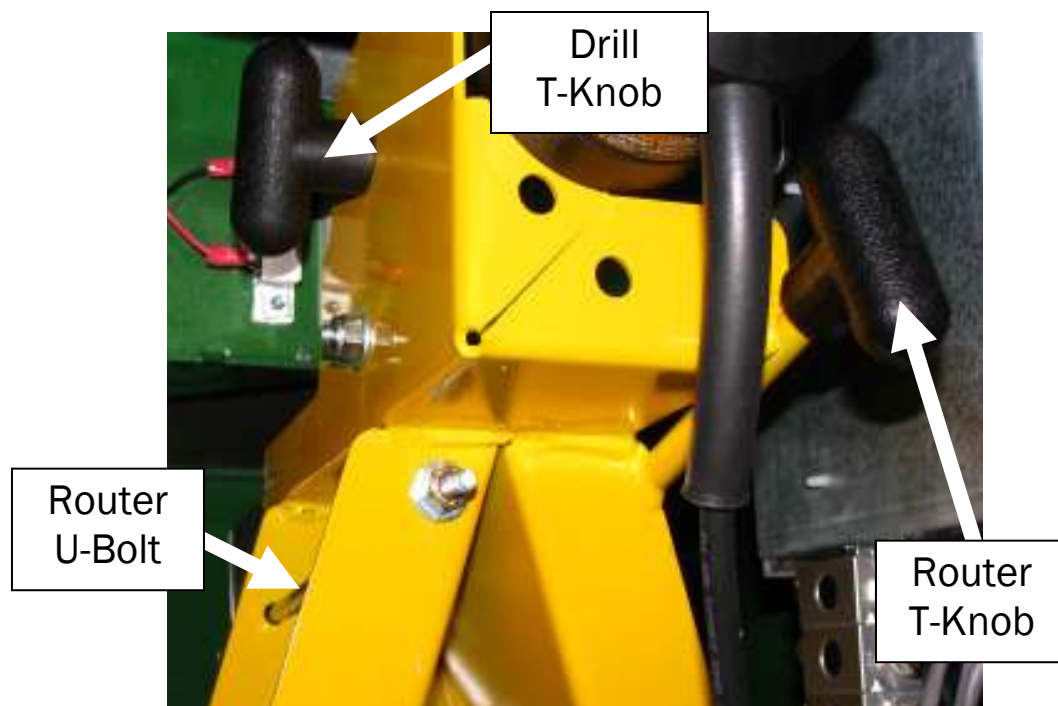

Figure 30
3. To the right of the Drill Motor is the Router T-Knob that tightens a large U-Bolt holding the Router Motor in place. **See fig. 30**
2. Open the rear door and locate the Drill Motor at the top of the Motor Carriage. Just to the left is the Drill T-Knob that tightens a bolt holding the Motor in place. **See fig. 30.**